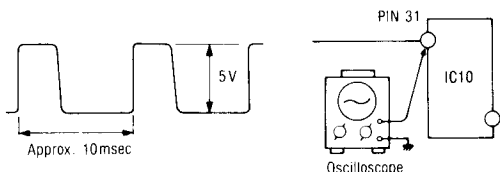

Fig. 18
2. Connect an oscilloscope to pin 31 of IC10, as shown in Fig. 18.